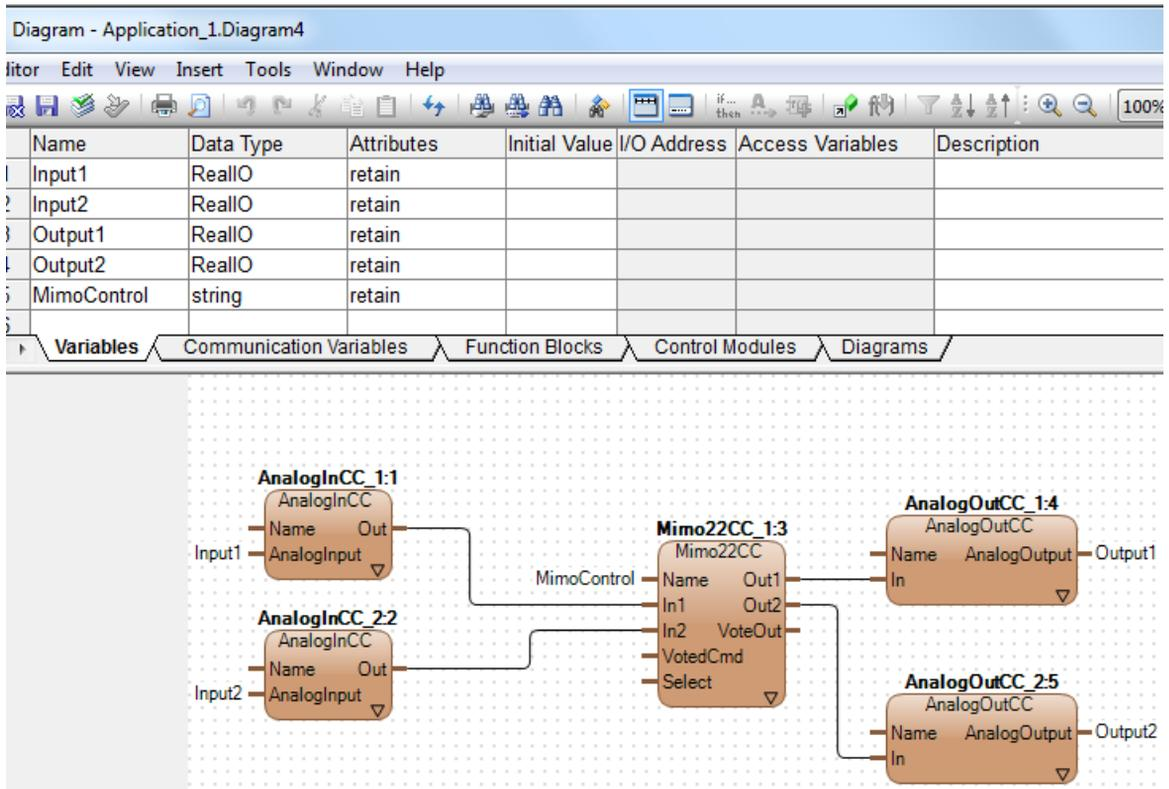

Figure 79. Mimo22CC connected in diagram editor
11. Connect the control modules correctly. Figure 79 shows the completed connection for the Mimo22CC object in the diagram editor.